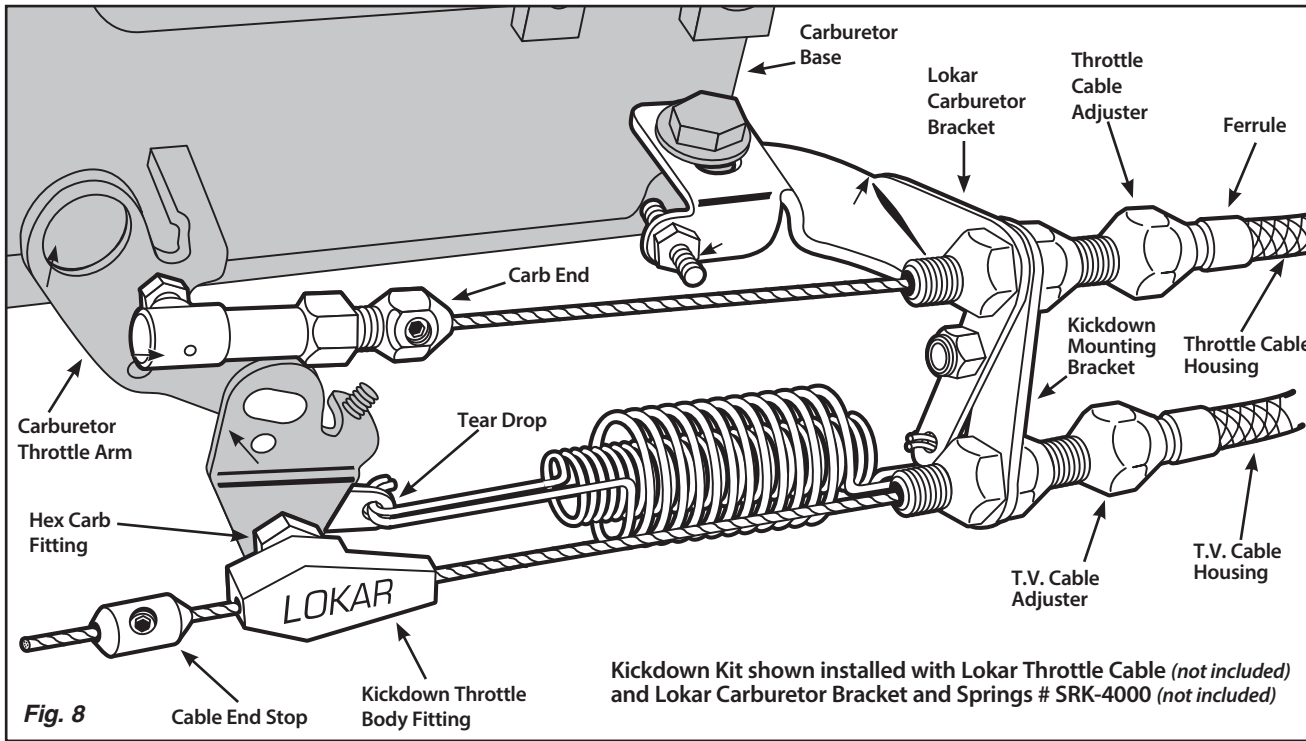

Fig. 8
Step 9: The tear drop will be attached to the carburetor throttle arm by the hex carb fitting. Separate the hex carb fitting from the kickdown throttle body fitting as shown in Fig. 7. Install the tear drop with the hex carb fitting and the 1/4"-28 nylock jam nut onto the carburetor throttle arm. Hook the springs to the tear drop and tighten the nylock jam nut. **Fig. 8** Then, back the nut off just enough so that the tear drop can rotate freely.